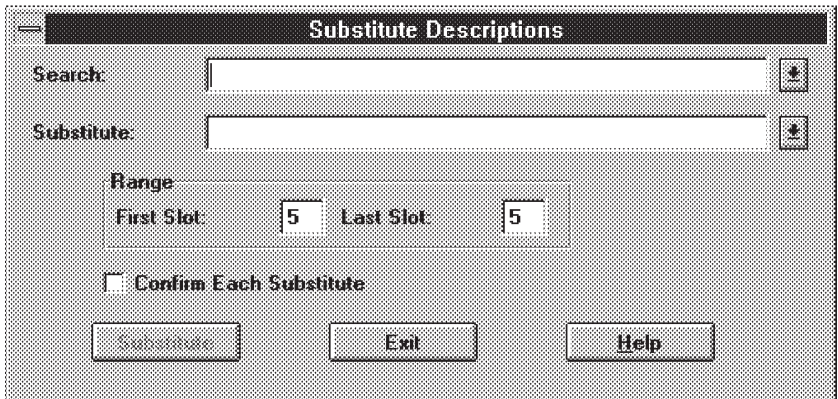

Figure 6.8 - Substitute Descriptions Dialog Box
- Step 1. Select Substitute Descriptions from the Commands menu. The Substitute Descriptions dialog box is displayed (see figure 6.8).